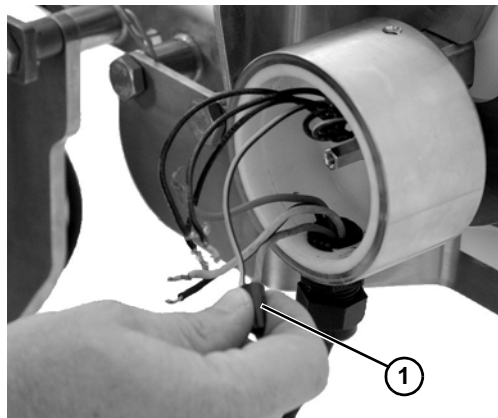

Figure 17
3. Remove wire nuts (Figure 17, item 1) from wires.